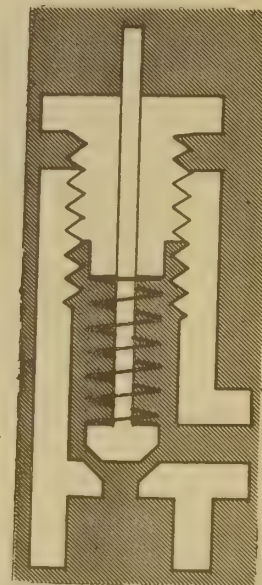

Figure 9
All pumps except centrifugal (and centrifugal jets) should be protected by a safety pressure release from excessively high pressures. Centrifugal pumps are not capable of producing dangerously high pressures even when the switch fails and the pump continues to run, and therefore they do not need this protection. The pressure release valve (illustrated in figure 9) is usually installed between the pump and the storage tank. It must be placed so that no valve can isolate it from the pump.
*From chart in Fig. 9 of Report BMS66, National Bureau of Standards.